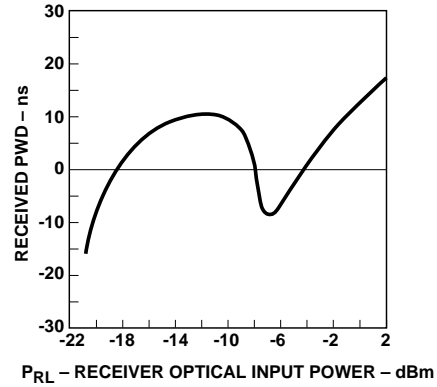

Figure 2. Typical POF Receiver Pulse Width Distortion vs. Optical Power at 10 MBd.
- Receiver overdrive ( $P_{RL,max}$ ) is specified as the limit where |PWD| will not exceed 30 ns. The receiver will be in the correct state (logic “0”) for optical powers above  $P_{RL,max}$ . However, it may not meet a 30% symbol period PWD if the overdrive limit is exceeded. Refer to Figure 2 for PWD performance at high received optical powers.